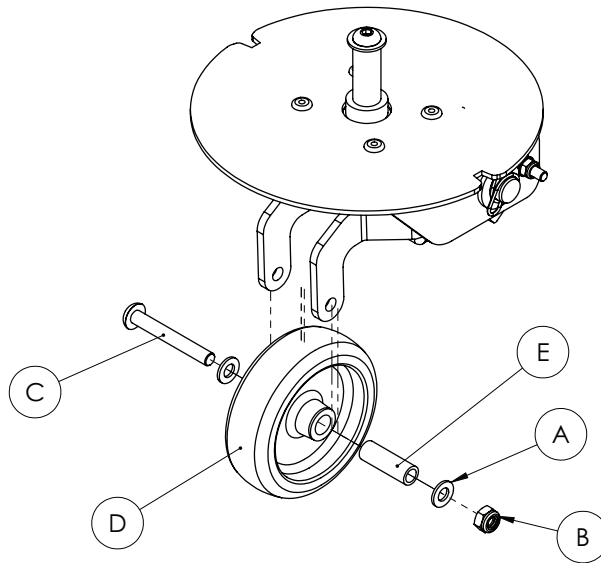

Figure 9 – Fifth wheel lubrication
5. Using a 13 mm combination wrench, remove and save the bolt (C), nut (B), and washers (A) from the fifth wheel (D) (Figure 9).
6. Remove and apply the polyurea based grease to the wheel bearing (E) surface (Figure 9).